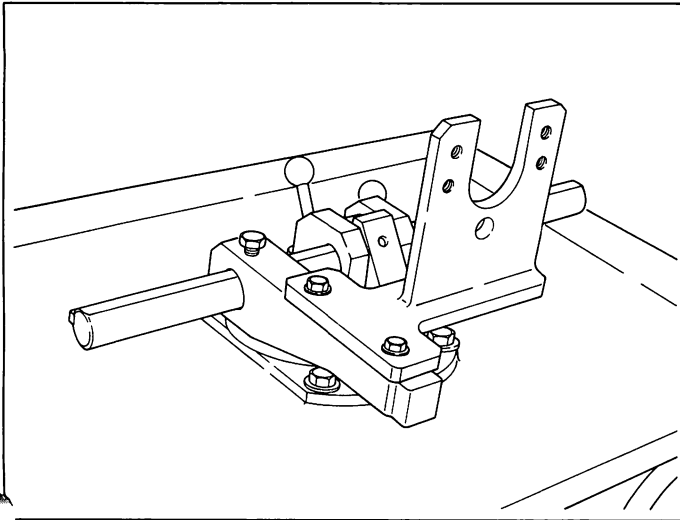

Fig. 2 Fixing the bracket
1. Before attaching the injection pump to the universal vise, remove the overflow valve (136) and drain the fuel oil from the pump.
3. Securely fix the bracket (157944-7920) to the bracket (157944-7200) using the two bolts. (Fig. 2)